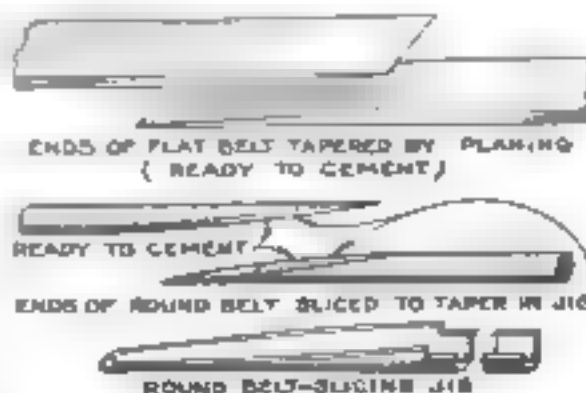

Fig. 3. Belts with properly tapered ends, and a brass jig used for slicing round belts.
Fig. 3. Assembled view of the chair showing the arrangement of the seat and back. The cushions may be made from an old mattress or from upholsterers' spring units, if desired.
**R**OUND belts cannot be planed in the same manner. Instead of coming to a true taper, the thin end will flatten out into a wide flap that cannot be cemented without producing a large lump on the belt. Round belts should be sliced with a sharp penknife to the proper taper in a special slicing jig, as shown in Fig. 2. The jig (see Fig. 3) is made from a piece of brass tubing having an inside diameter equal to the diameter of the belt. Ordinary 5/16-in. brass tubing has an inside diameter of 1/4 in. and therefore is suitable for a slicing jig for 1/4-in. round belts.